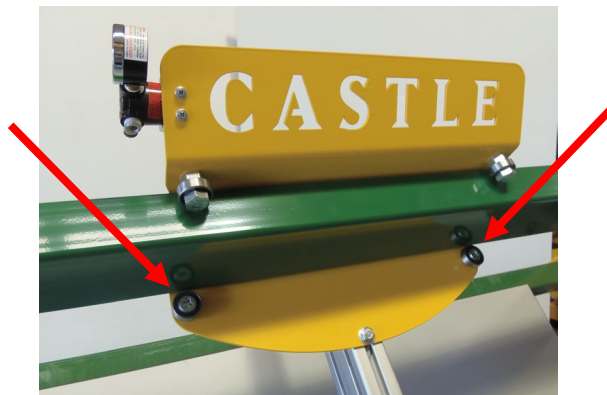

Fig 5
4. Remove the 2 upper arm bracket bearings on the bottom of the beam. (Fig 5)